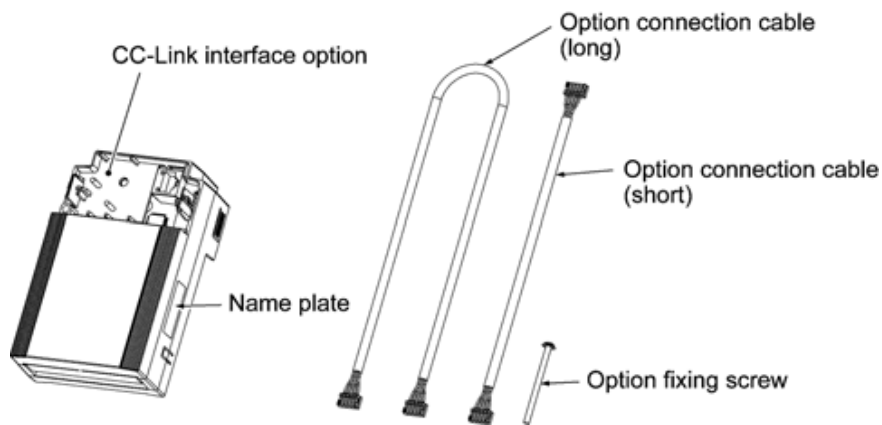

Figure 1.1 CC-Link Interface Option and Accessories
- (1) A CC-Link interface option and the following accessories are contained in the package. (See Figure 1.1.)
- (2) The option and accessories have not been damaged during transportation—there should be no dents or parts missing.
- (3) The model name "OPC-E1-CCL" is printed on the nameplate attached to the right side of the option. (See Figure 1.1.)